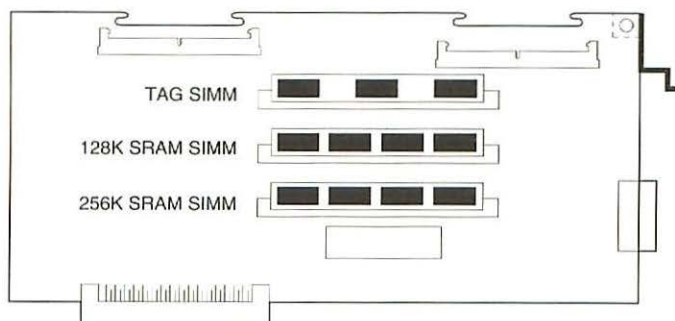

Figure 2 WS 95 Cache Card
1. Remove the cover, and WS 95 PDS card (Figure 2).